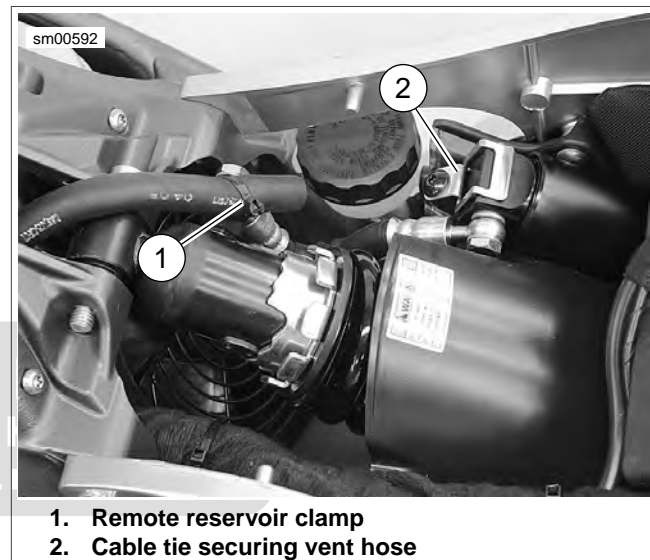

Figure 2-122. Rear Shock Absorber and Remote Reservoir (XB12Ss Shown)
3. Place a scissor jack under jacking point at the rear muffler and raise chassis until load has been removed from the lower shock bolt (7). See 4.18 EXHAUST SYSTEM for jacking point.
4. See Figure 2-122. Cut the cable tie (2) securing vent hose to shock housing.
5. Remove the nut (4) and washer (5) from the lower shock bolt and raise scissor jack until the lower bolt can be removed by hand.
6. After removing both shock fasteners (7, 9) and reservoir clamp fastener (1), remove rear shock assembly and reservoir.